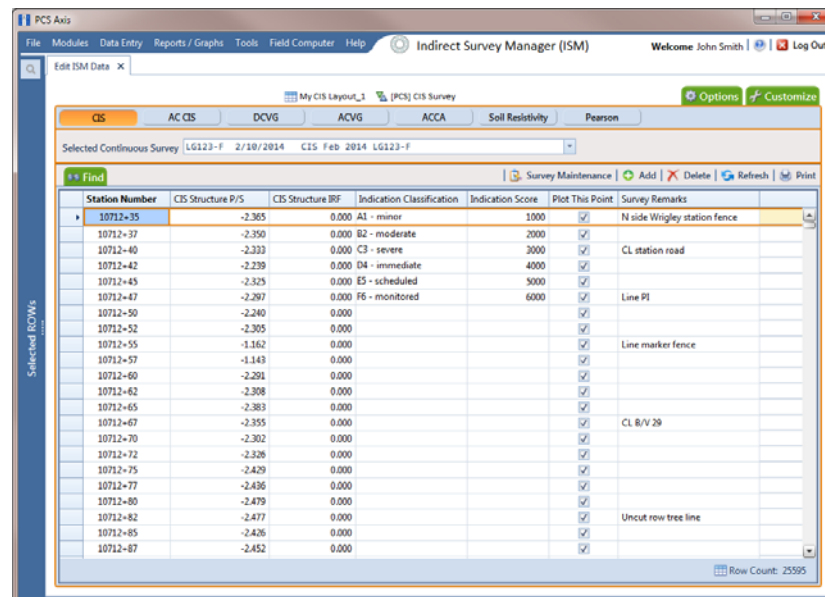

Figure 7-63. Edit ISM Data
- 3 Click **Data Entry > Edit ISM Data** to open the ISM data entry grid. Then click a button labeled with the type of continuous survey data you want to work with, such as the **CIS** button  (Figure 7-63).